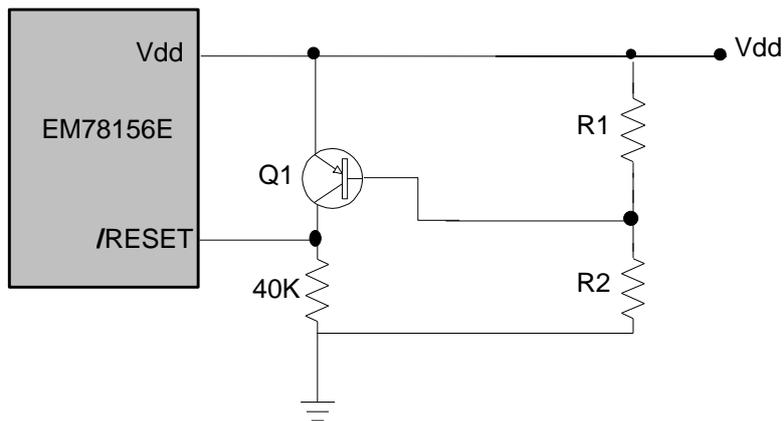

Figure 16 Circuit 2 for the Residue Voltage Protection
The circuit shown in Fig.16 implements an external RC to produce the reset pulse. The pulse width (time constant) should be kept long enough for Vdd to reached minimum operation voltage. This circuit is used when the power supply has slow rise time. Because the current leakage from the /RESET pin is about  $\pm 5\mu$ A, it is recommended that R should not be greater than 40 K. In this way, the /RESET pin voltage is held below 0.2V. The diode (D) acts as a short circuit at the moment of power down. The capacitor C will discharge rapidly and fully. Rin, the current-limited resistor, will prevent high current or ESD (electrostatic discharge) from flowing to pin /RESET.